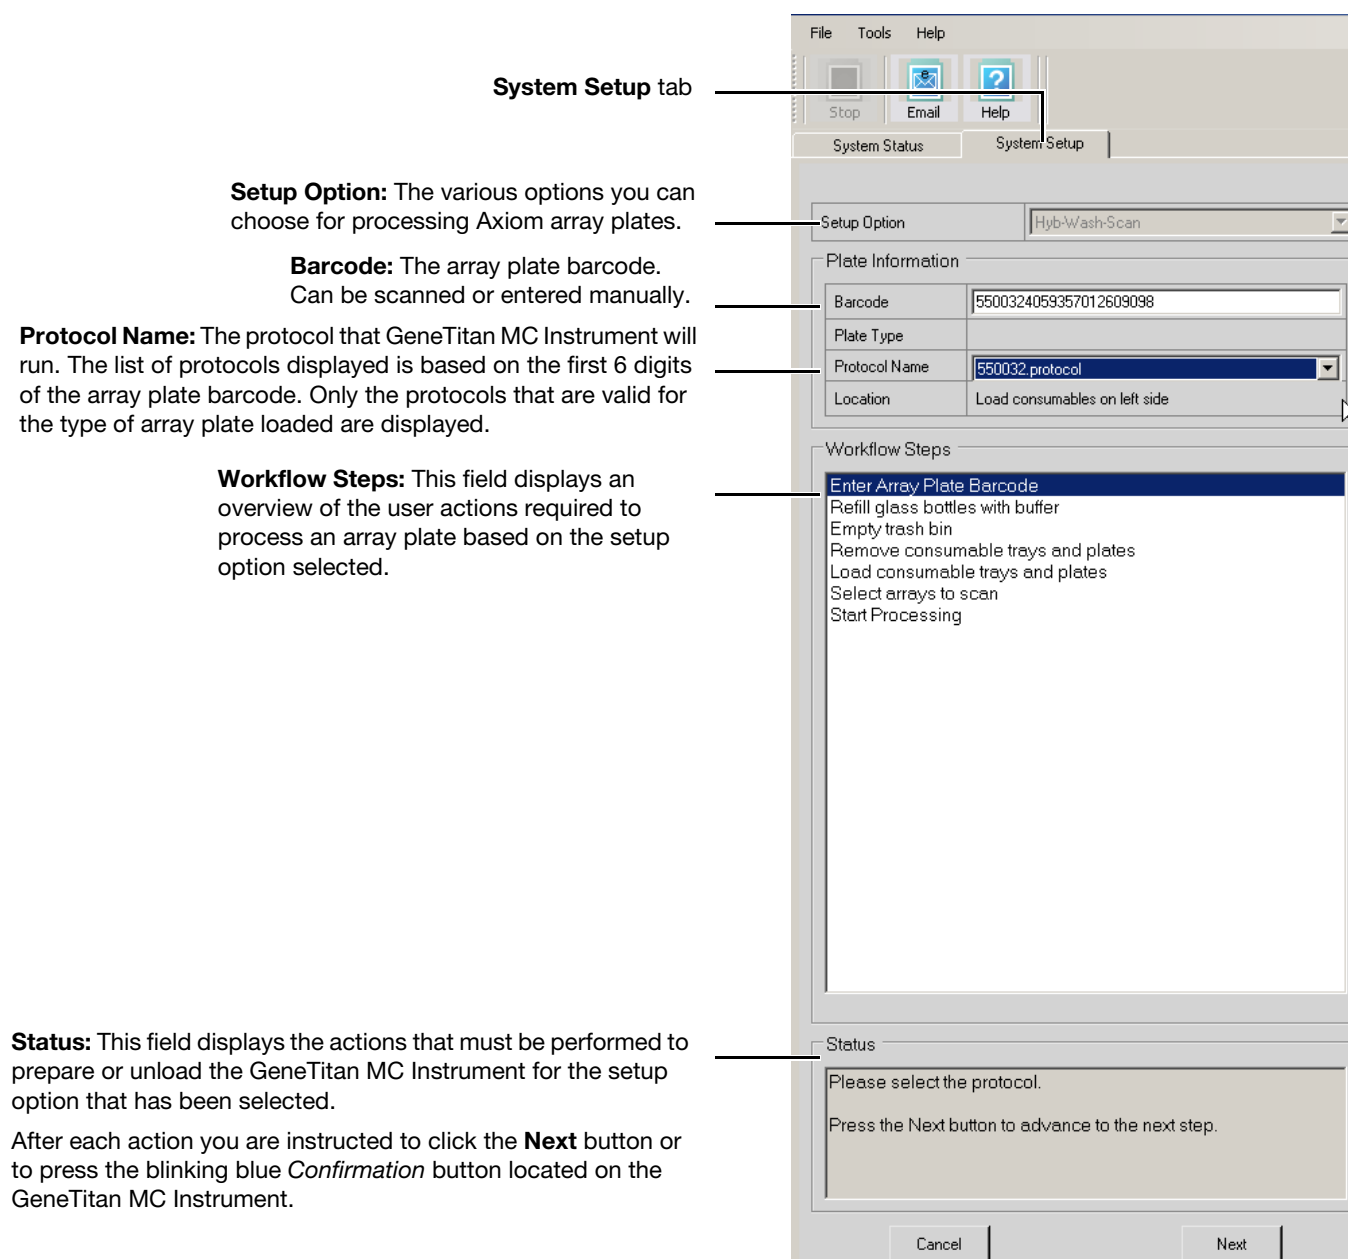

Figure 37 System Setup tab and the information displayed in this pane
2. Select the **System Setup** tab (Figure 37).